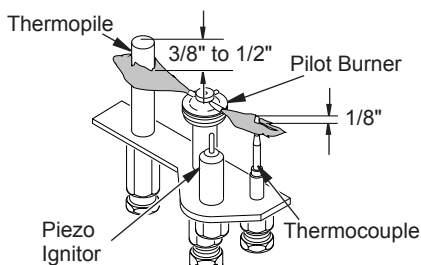

Figure 54 - Pilot Assembly
- Turn the adjustment screw marked PILOT clockwise to decrease or counterclockwise to increase the flame to proper size (see Figure 54). Do not remove the adjustment screw.